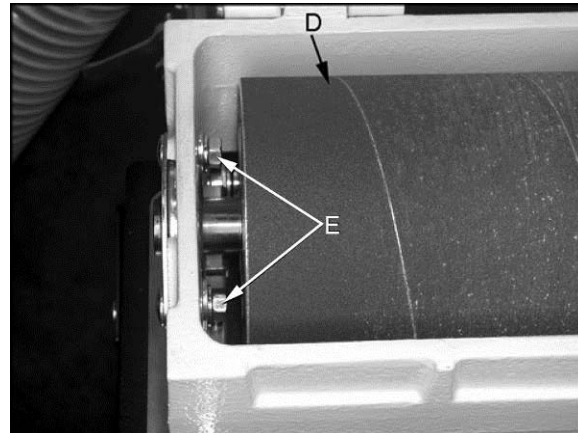

Figure 24
1. Unplug sander from power source and remove abrasive (D, Figure 24) from drum.
2. Loosen all four hex nuts on the bearing bolts (E, Figure 24). This will allow both tension rollers to drop to their lowest position. (NOTE: Figure 24 only shows outboard end of drum. Adjustments must be made on *both ends* of drum.)
4. Tighten the four hex nuts (E, Figure 24). Both tension rollers are now positioned about 1/16" below the bottom of the sanding drum.
2. If both tension rollers are causing snipe then tighten all four hex nuts (E, Fig. 24) at this position.